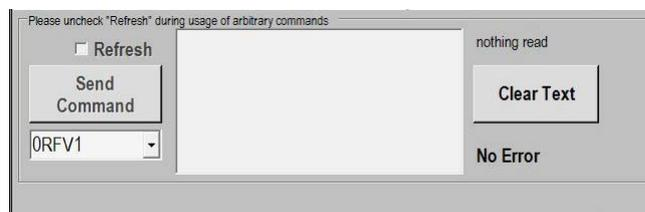

Fig.19: Command section of User Interface
- Make sure the Refresh Box is unchecked (as in fig. 19)